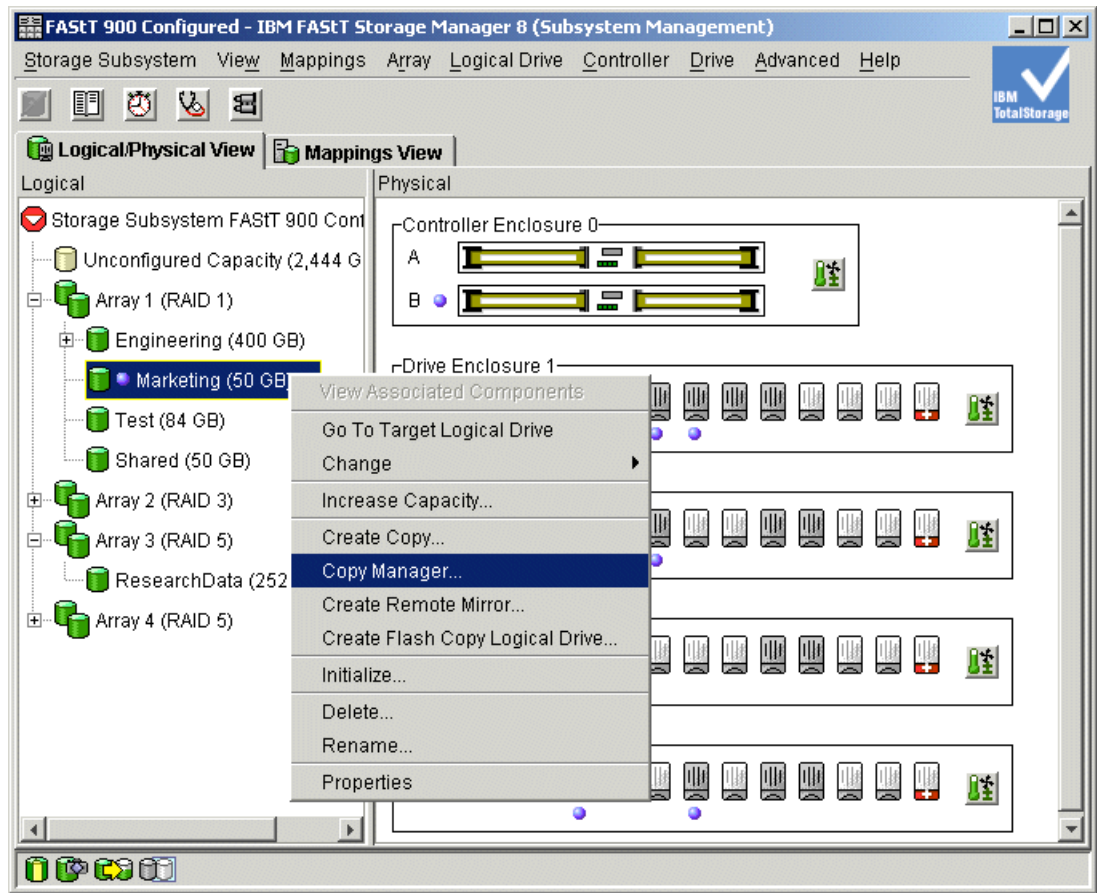

Figure 9-13 Launching the Copy Manager
1. Select either the **Logical Drive -> Copy -> Copy Manager** pull-down menu option, or **Copy Manager** from the right-mouse pop-up menu (Figure 9-13).